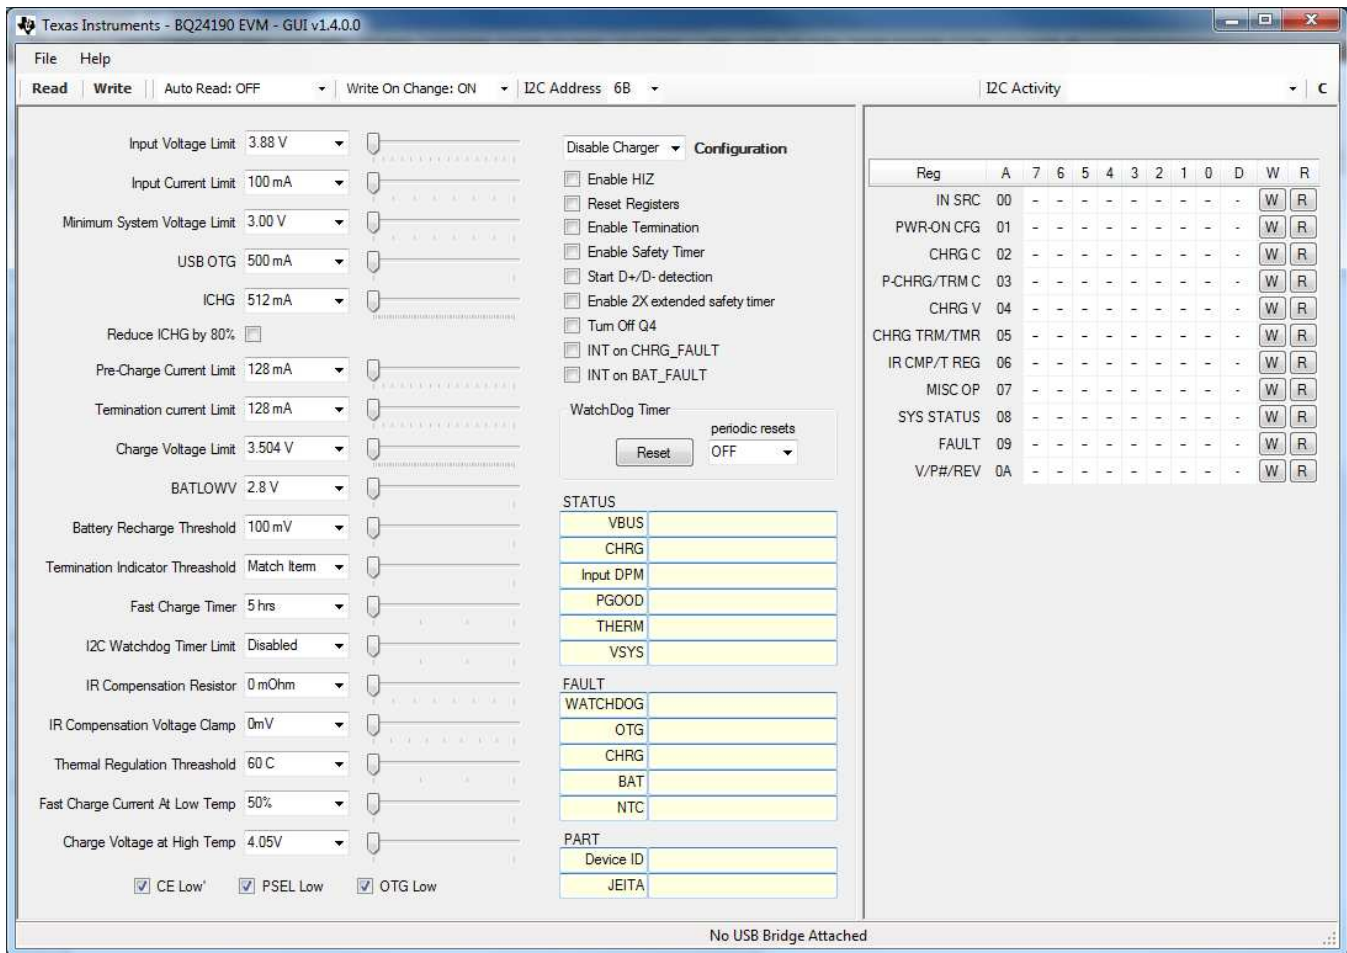

Figure 3. Main Window of the bq24195x Evaluation Software for bq24195/L
8. Turn on the computer. Launch the bq2419xEVM evaluation software. The main window of the software is shown in Figure 3.